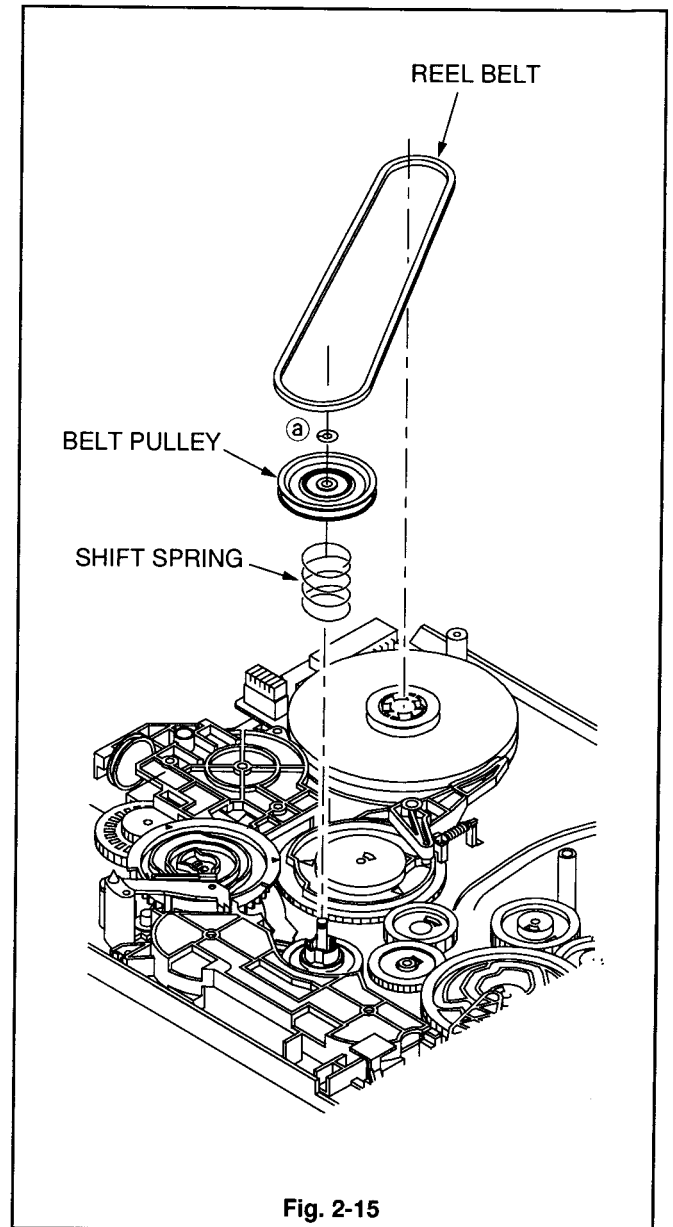

Fig. 2-15
- 1 Remove the REEL BELT shown in Fig. 2-15.
- 2 Remove the CUT WASHER (a) fastening the BELT PULLEY shown in Fig. 2-15 to remove the BELT PULLEY.
- 3 Remove the SHIFT SPRING shown in Fig. 2-15.
- 1 Install the SHIFT SPRING shown in Fig. 2-15.
- 2 Fasten the BELT PULLEY shown in Fig. 2-15.
- 3 Install the CUT WASHER shown in Fig. 2-15 to fasten the BELT PULLEY.
- 4 Install the REEL BELT shown in Fig. 2-15.